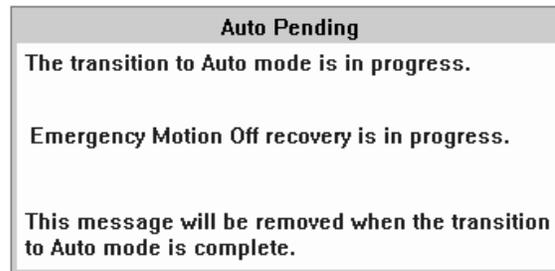

Figure 33. Auto Pending Window
6. The Auto LED on the operator panel flashes until the transition is complete, then stays lit. The Auto Pending window (Figure 33) indicates that the library is changing from Pause mode to Auto mode. **Emergency Motion Off recovery is in progress** will appear in the window for a short time during this transition. When Emergency Motion Off Recovery is complete, the window closes.